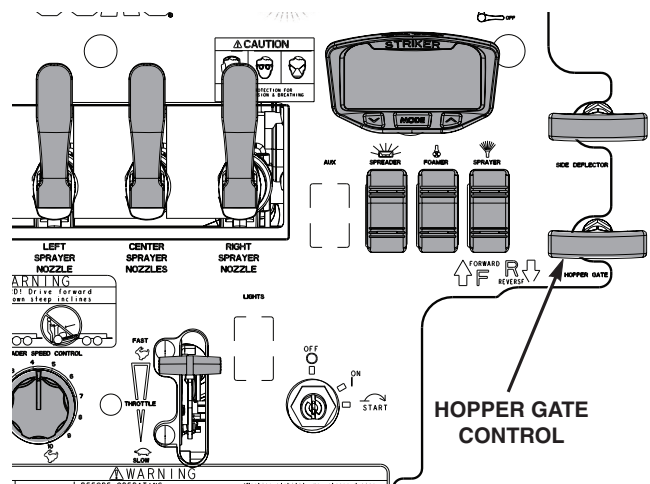

Figure 4-17. Hopper Gate Control
4. To open the hopper gate, pull the hopper gate control handle. Refer to section 4.11B, Figure 4-17.